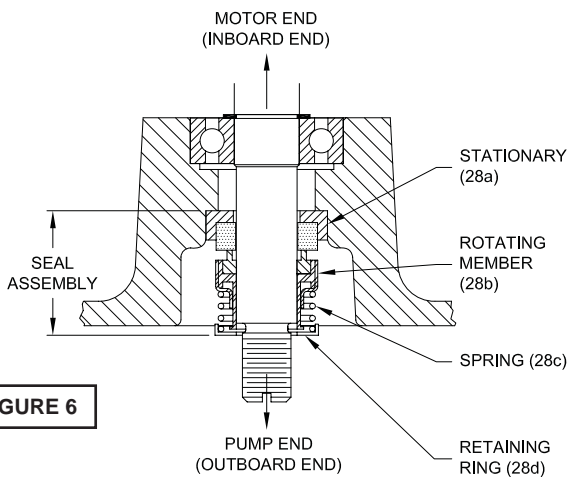

FIGURE 6
To expose shaft seal (28) for examination, disassemble volute and impeller as outlined in paragraph F-2.1. If further repair is required, remove retaining ring (28d), spring (28c) and rotating member (28b) from shaft (see Figures 6 & 7). Examine all seal parts and especially contact faces. Inspect seal for signs of wear such as uneven wear pattern on stationary members, chips and scratches on either seal face. **DO NOT interchange seal components**, replace the entire shaft seal (28). If replacing seal, remove stationary (28a) by prying out with flat screwdriver.